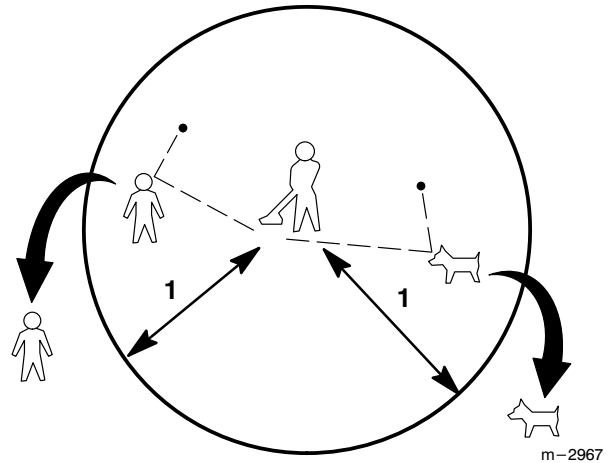

Figure 3
4. Keep children, bystanders and animals outside a 50 ft. (15 m) radius from the operator and Brushcutter (Fig. 3).